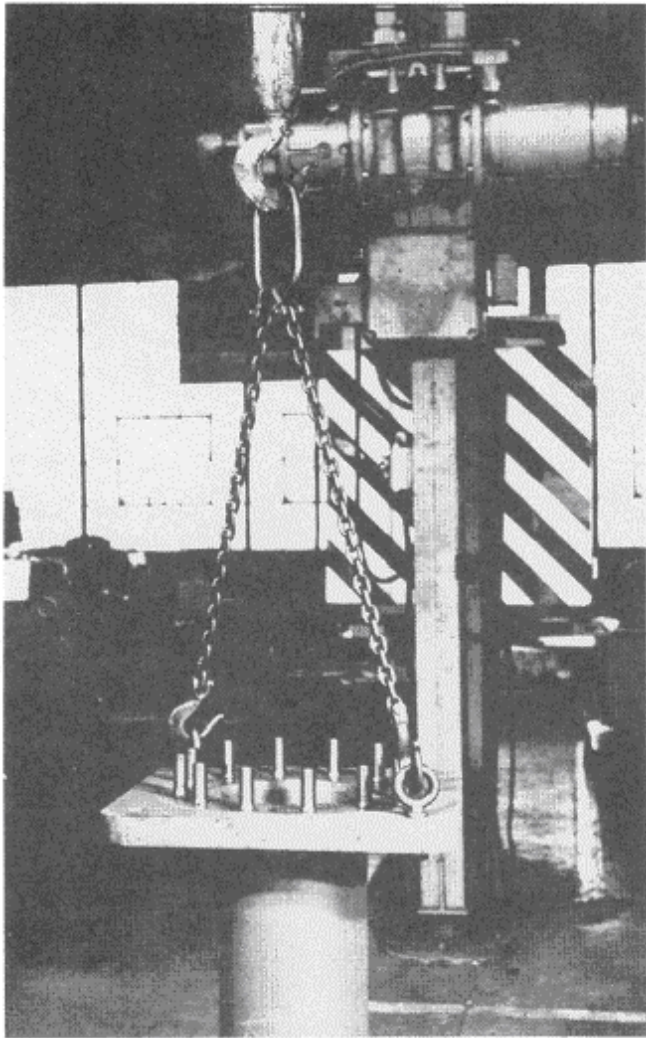

Fig. 4-1. Pump barrel being lifted, using eyebolts and sling.
A. Place four blocks of wood on the foundation, arranged around the opening as a temporary support for the flange of the barrel. Install eyebolts in two diametrically opposite holes in the barrel flange. Attach a sling to the eyebolts, using suitable hooks or clevises, and pass the looped end of the sling over the hoist hook. (See Fig. 4-1.)